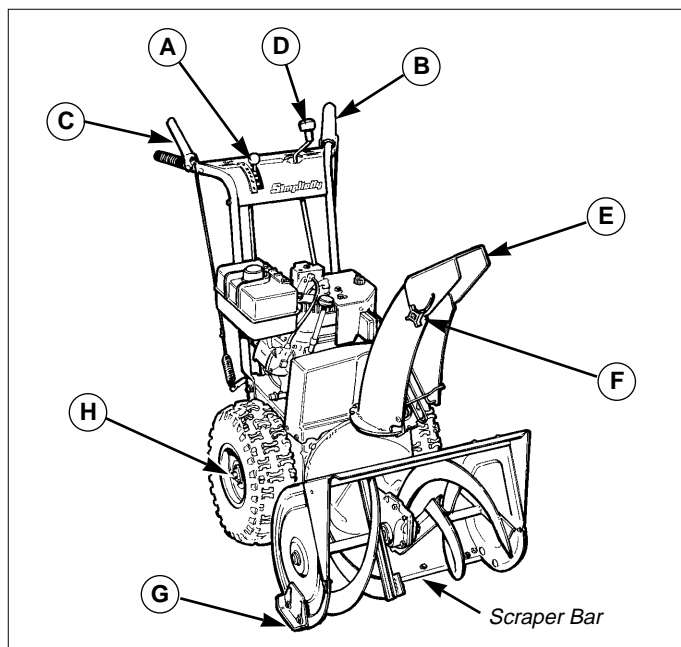

Figure 5. Snowthrower Operating Controls
E. Chute Deflector - Controls the distance snow is thrown. Tilting the Chute Deflector (E, Figure 5) UP provides a higher stream and greater distance, while tilting the deflector DOWN provides a lower stream and less distance.
F. Chute Deflector Knob - This knob (F, Figure 5) allows the discharge Chute Deflector (E, Figure 5) to be locked in the desired tilt position.
G. Scraper Bar Height Control - The Skid Shoes (G, Figure 5) control the height the scraper bar (located at the bottom of the auger housing). The scraper bar allows smooth surfaces (such as concrete or asphalt driveways) to be scraped clean of snow. On surfaces such as gravel, the scraper bar should be adjusted higher — so that it will not pick up gravel or debris.
H. Traction Lock Pins - The traction drive to each wheel can be locked and unlocked with the Traction Lock Pins (H, Figure 5) to permit the unit to "free-wheel," allowing easier manual handling and transport of the snowthrower.